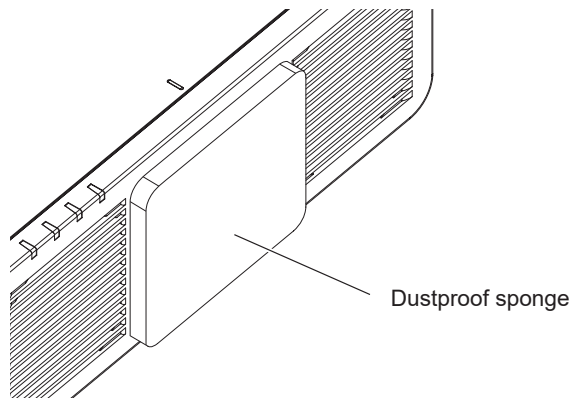

Fig. 1
- 1) Remove the dustproof sponge. (Fig. 1)